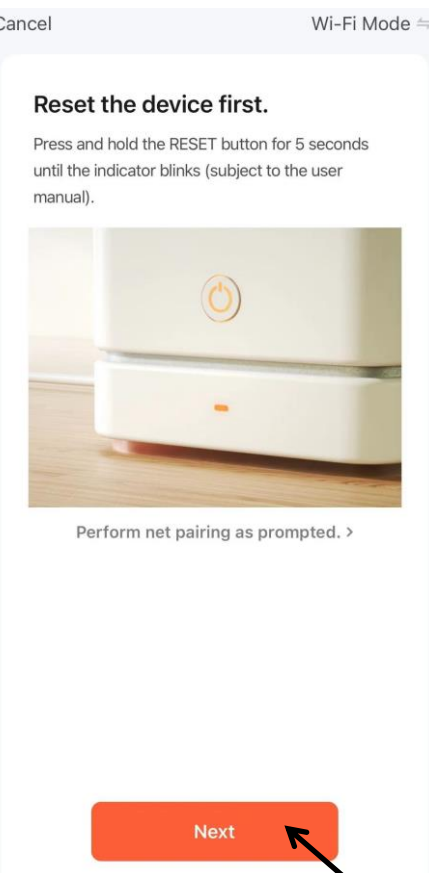
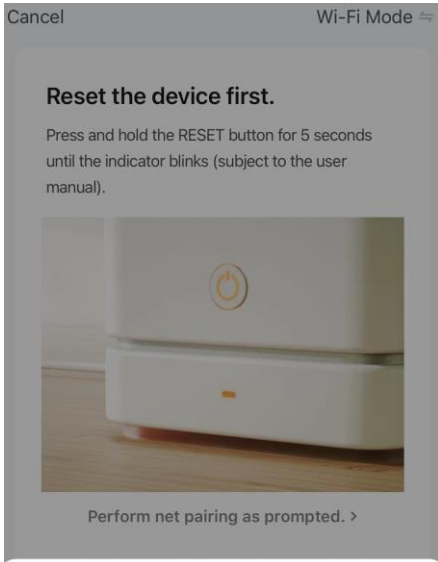

Fig.3
Fig.4
4. Tap “Next” on Fig.3. Continue to tap “Blinking or breathing rapidly” on Fig.4.